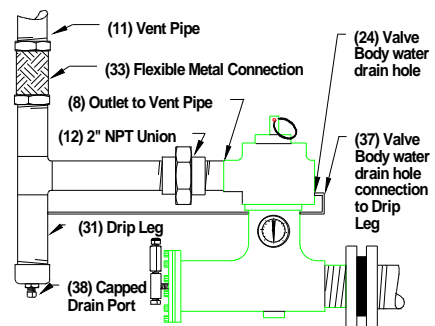

Figure 2.
(see Figure 2 on page 8)
4. It is recommended that you utilize a flexible metal connection (33) to make the installation easier. You must use a 2" NPT union (12) for future servicing.
5. The installer shall determine the best way to plumb the exhaust vent line using the hook-up to vent pipe illustration in Figure 2 as a guide.
6. Apply thread sealant compound to threads on the valve's 2" carbon fragment collection trap inlet (13) and install (see **Caution** below.) This should be screwed DIRECTLY into the existing rupture disk flange whenever possible. In no event should the valve be installed with an extension pipe more than 14 inches from the rupture disk. (See Appendix "C" on Page 17 for illustrations if extension must be used.) **IF AN EXTENSION PIPE IS USED, IT MUST BE STRAIGHT (NO 45° or 90° ELBOWS)** and have a 2" inside diameter. **[If the valve is not vertical after tightening into the rupture disk flange, it may be necessary to install a 2" pipe union between the valve and the outer rupture disk flange.]**
- Determine best method for connecting drip leg (31) to the “outlet to the vent pipe” (8) (see figure 2 on page 8). Again, the “outlet to vent pipe” (8) can be adjusted to point in any horizontal direction by loosening the 3 valve body locking screws (9) and turning the valve body (7) (see first row of Appendix “C” on page 16 for illustration). Run a ¼” line (37) from the Valve Body water drain hole (24) to the Drip Leg (31). (Don’t forget to re-tighten the 3 valve body locking screws (9).)
1. **BEFORE SERVICING THE VALVE**, utilize pull ring (25) to pull up and insert a pin in the spring tension bar (26) in the 2nd hole (17). This will protect the seating O-Ring (1) from damage and keep the valve body (7) from popping up during servicing.
2. After pinning the spring tension bar (26) per previous step, break vent pipe union (12) (see Figure 2 on page 8).
3. Next, loosen the three (3) valve body locking screws (9), then lift the valve body (7) from the valve neck (32) .
4. Inspect the valve seat O-Ring (1) and the valve body O-Ring (2). If there are signs of wear or excessive compression set, replace the O-Rings. Lightly oil the valve seat O-Ring to facilitate installation into the dove-tail O-Ring groove.